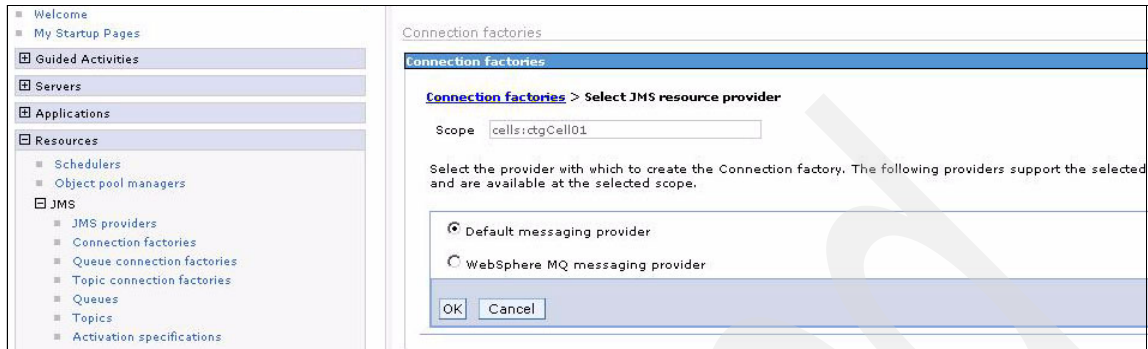

Figure A-38 New connection factory
4. Verify that the Default Messaging Provider is selected and click **OK** (see Figure A-38).